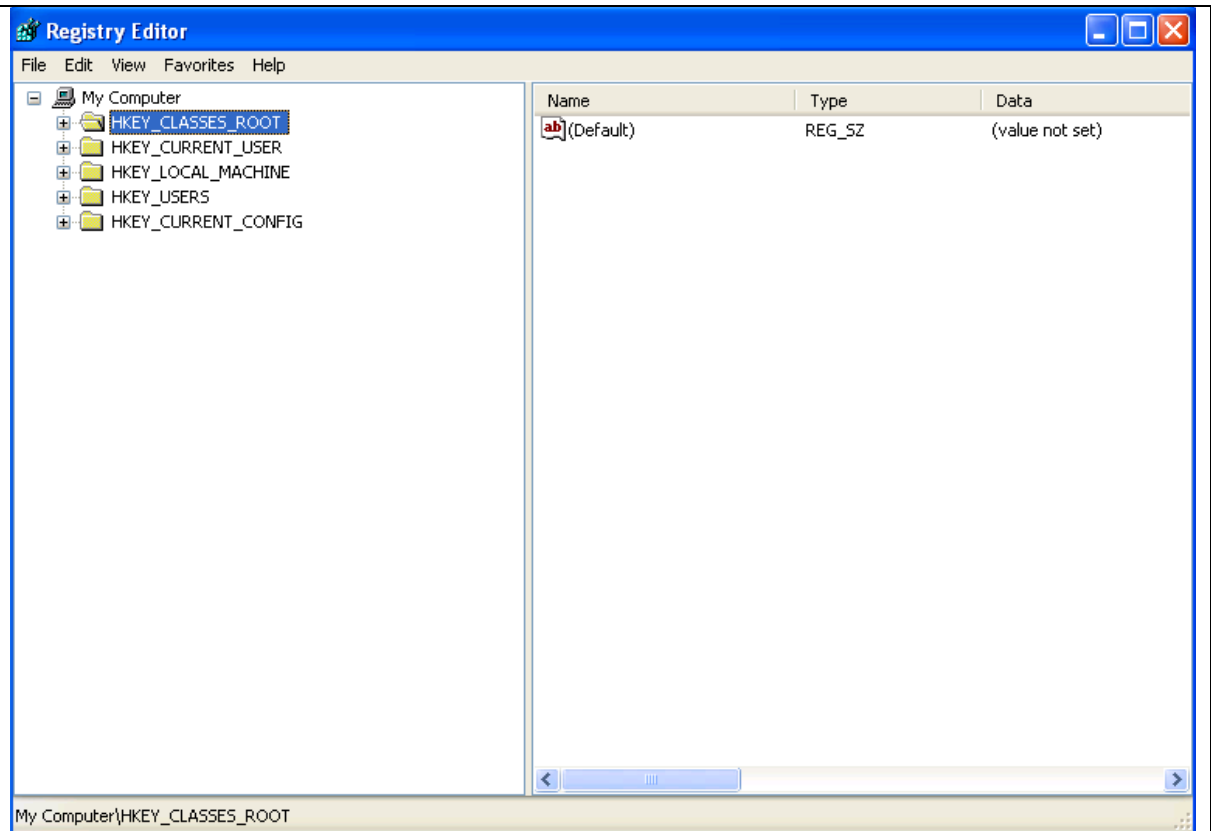

Figure 64 - Registry Editor
2. The **Registry Editor** (Figure 64) is launched.